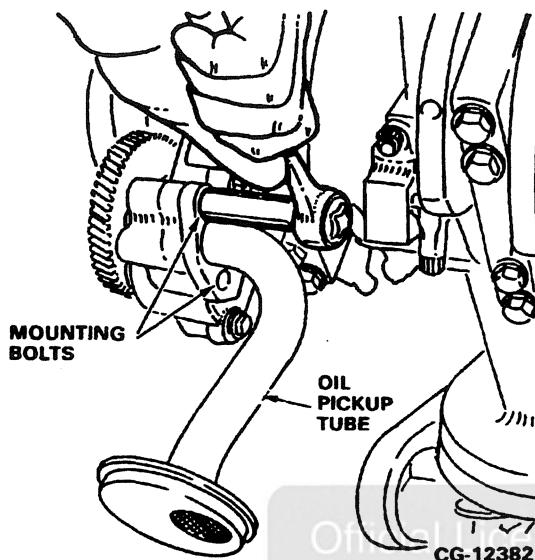

Figure 8.7. Remove Oil Pickup Tube
4. Loosen and remove the two oil pickup tube retaining bolts. Note the location of the long and short bolt for reassembly. Refer to Figure 8.7.